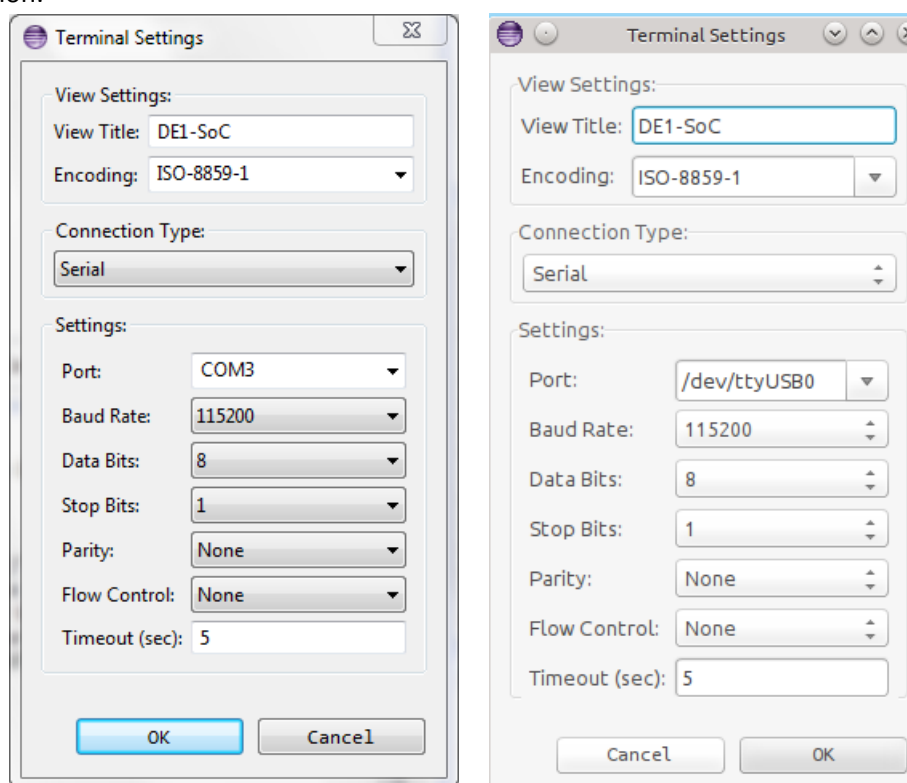

Figure 8-48. ARM DS-5 Serial Terminal Settings (Windows settings on the left, Linux settings on the right)
10. Modify the serial terminal’s settings to match those shown in Figure 8-48, then press “OK” to start the connection.